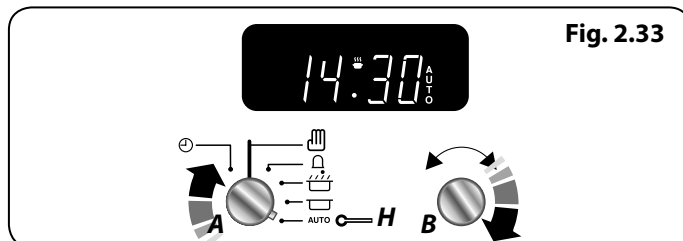

Fig. 2.33
2. Turn the **Adjusting (B)** knob clockwise, the display will show the current time of day (**Fig. 2.33**).
3. Continue to turn the **Adjusting (B)** knob to the amount of time required e.g. 1 minute. The display will show the current time plus the required length of time you have set (**Fig. 2.33**).
4. Turn the **Timer (A)** knob to the **Auto (H)** setting (**Fig. 2.33**). The display will show the current time, the Cooking symbol and the word 'AUTO'.